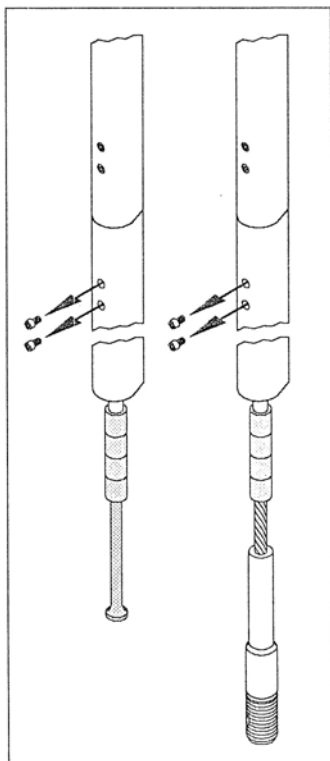
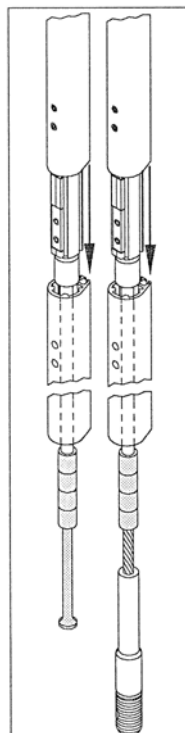

Bild 1 / fig. 1
Bild 2 / fig. 2
From the bottom end of the stay, slide on and feed the top profile along to the top end of the stay. When in place, assemble a pair of split join sleeves over the stay at the spacer tube, marked red, directly under the top section ( fig. 1 ). Insert a stainless steel plate ( 1 ) into the recess on the top half of the join sleeve and make sure that the holes of the plate and the join sleeve are on the same side. Push the join sleeve half of its length into the upper foil section (2). ( fig. 2 ).
From the bottom end of the stay, slide on and feed the top section along to the top end of the stay. ( Fig. 1 )
a.) measurement  $C < 2150\text{mm}$ : Place two big split bushes and two long spacer tubes on the stay. Secure the bushes with tape and push them together into the top section. ( Fig. 2 )